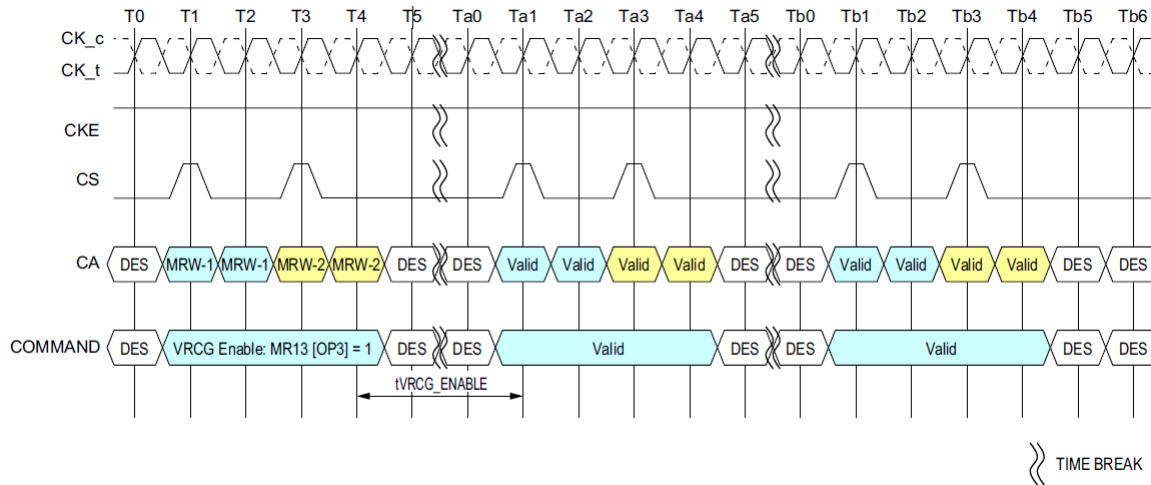

Figure 80. VRCG Enable timing
LPDDR4 SDRAM Vref current generators (VRCG) incorporate a high current mode to reduce the settling time of the internal Vref(DQ) and Vref(CA) levels during training and when changing frequency set points during operation. The high current mode is enabled by setting MR13[OP3] = 1_B. Only Deselect commands may be issued until t_{VRCG_ENABLE} is satisfied. t_{VRCG_ENABLE} timing is shown in Figure 80.